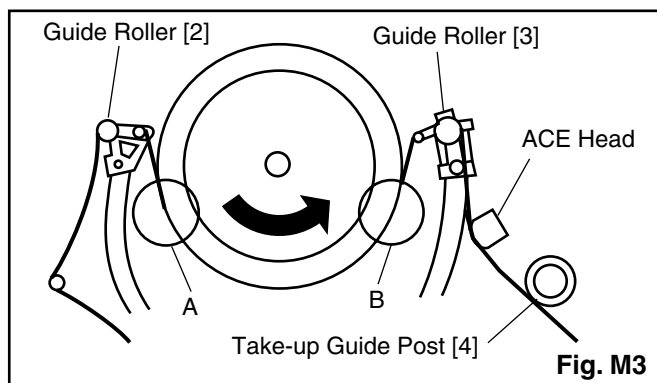

Fig. M3
1. Playback a blank cassette tape and check to see that the tape runs without creasing at Guide Rollers [2] and [3], and at points A and B on the lead surface. (Refer to Fig. M3 and M4.)
2. If creasing is apparent, align the height of the guide rollers by turning the top of Guide Rollers [2] and [3] with a Guide Roller Adj. Screwdriver. (Refer to Fig. M3 and M5.)
3. Check to see that the tape runs without creasing at Take-up Guide Post [4] or without snaking between Guide Roller [3] and ACE Head. (Fig. M3 and M5)
- Playback the Gray Scale on the Test Tape (9HSFL6NS8). Set the Tracking Control Circuit to the preset position by pressing CH ▲ button and then "PLAY" button on the unit. Adjust the height of Guide Rollers [2] and [3] (Fig. M3, Page 2-3-3) watching the oscilloscope display so that the envelope becomes as flat as possible. To do this adjustment, turn the top of the Guide Roller with the Guide Roller Adj. Screwdriver.
- If the envelope is as shown in Fig. M7, adjust the height of Guide Roller [2] (Refer to Fig. M3) so that the waveform looks like the one shown in Fig. M9.
- If the envelope is as shown in Fig. M8, adjust the height of Guide Roller [3] (Refer to Fig. M3) so that the waveform looks like the one shown in Fig. M9.
- When Guide Rollers [2] and [3] (Refer to Fig. M3) are aligned properly, there is no envelope drop either at the beginning or end of track as shown in Fig. M9.
Note: Upon completion of the adjustment of Guide Rollers [2] and [3] (Refer to Fig. M3), check the X Value by pushing the CH ▲ or ▼ buttons alternately, to check the symmetry of the envelope. Check the number of pushes to ensure preset position. The number of pushes CH ▲ button to achieve 1/2 level of envelope should match the number of pushes CH ▼ button from center. If required, redo the "X Value Alignment."